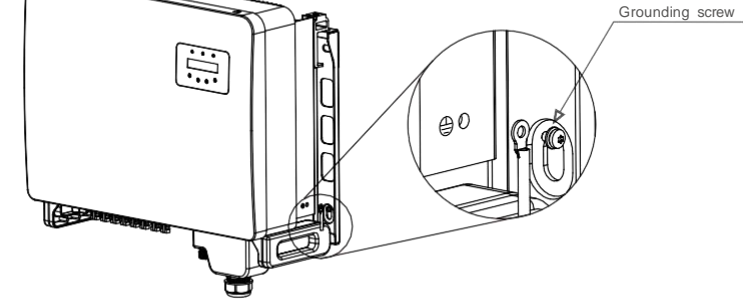

Figure 5.9 Fixed cable
6. Connect the grounding cable to the grounding point on the heat sink, and tighten the grounding screw, Torque is 3-4Nm(see figure 5.9).